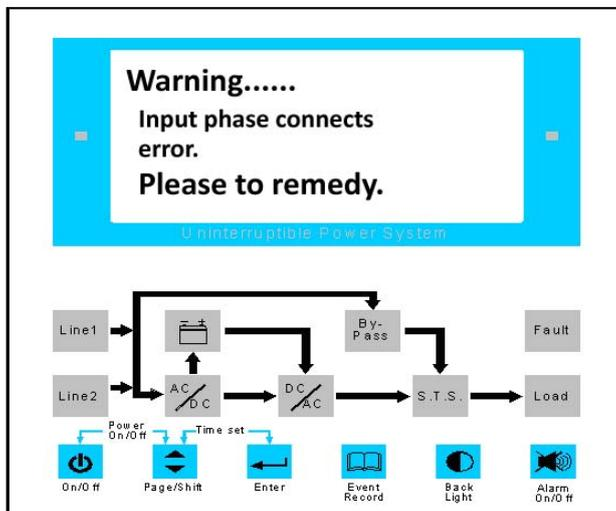
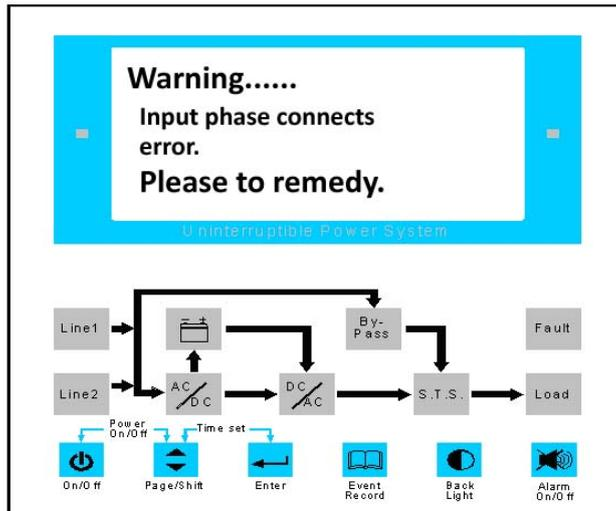

Figure 31 : Incorrect Phase Rotation Screen
Figure 32 : Phase Angle Shift Screen
**\* Note: If the UPS beep continuously and LCD show as Figure 31 or Figure 32, please check the utility AC power input wiring phase rotation or phase angle.**
If the utility AC power input wiring phase rotation is incorrect, the UPS will beep continuously, the screen will flash and the screen will have warning message as Figure 31 shown.
If the utility AC power input phase angle shift, the UPS will beep continuously, the screen will flash and the screen will have warning message as Figure 32 shown.